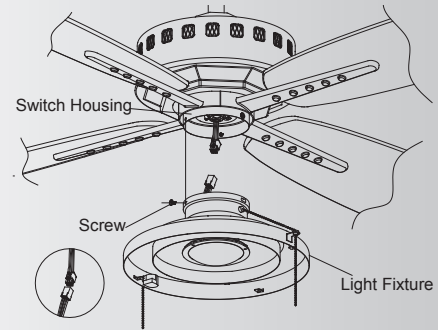

Fig. 3
Step 4. Remove 1 of the 3 screws on the edge of switch housing and loosen the other 2 screws (do not remove). The Square plastic wiring connector from the motor body and switch cover will only fit together one way. Match up the color on the side of each connector, then push them together until the snap engages. Tuck the new connections neatly into the switch cover. Align the key holes on the switch cover with the 2 screws on the edge of the switch housing. Turn switch cover until it locks in place at the narrow end of the key holes. Tighten the 2 screws and reinstall the third screw, making sure all three screws are tight and secure. (Fig. 3)